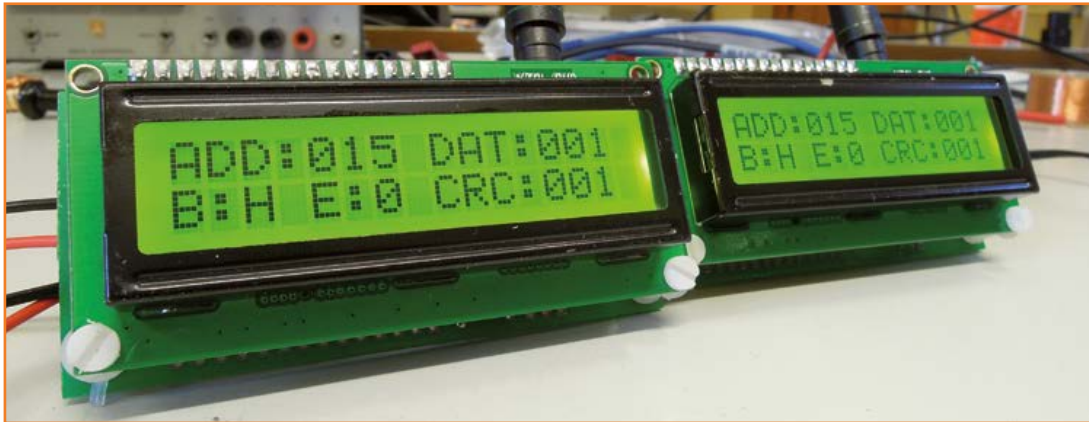

Figure 4.
**Figure 4** shows the prototypes assembled at Elektor Labs with an LCD display showing `address = 15`, `data` and `CRC = 1`, Bit rate (B) is high (H = 5,000 bps) and Error (E) = 0 (no error). This simple application shows the potential of these units and it is very useful to debug the code when things do not turn out as expected. This concludes the second and last part of this project. Should you have any questions, concerns or just comments regarding the hardware or software presented, do not hesitate to join our topic on [2] or visit the author's web page at [3]; PCB artworks and software routines will be available for direct download.